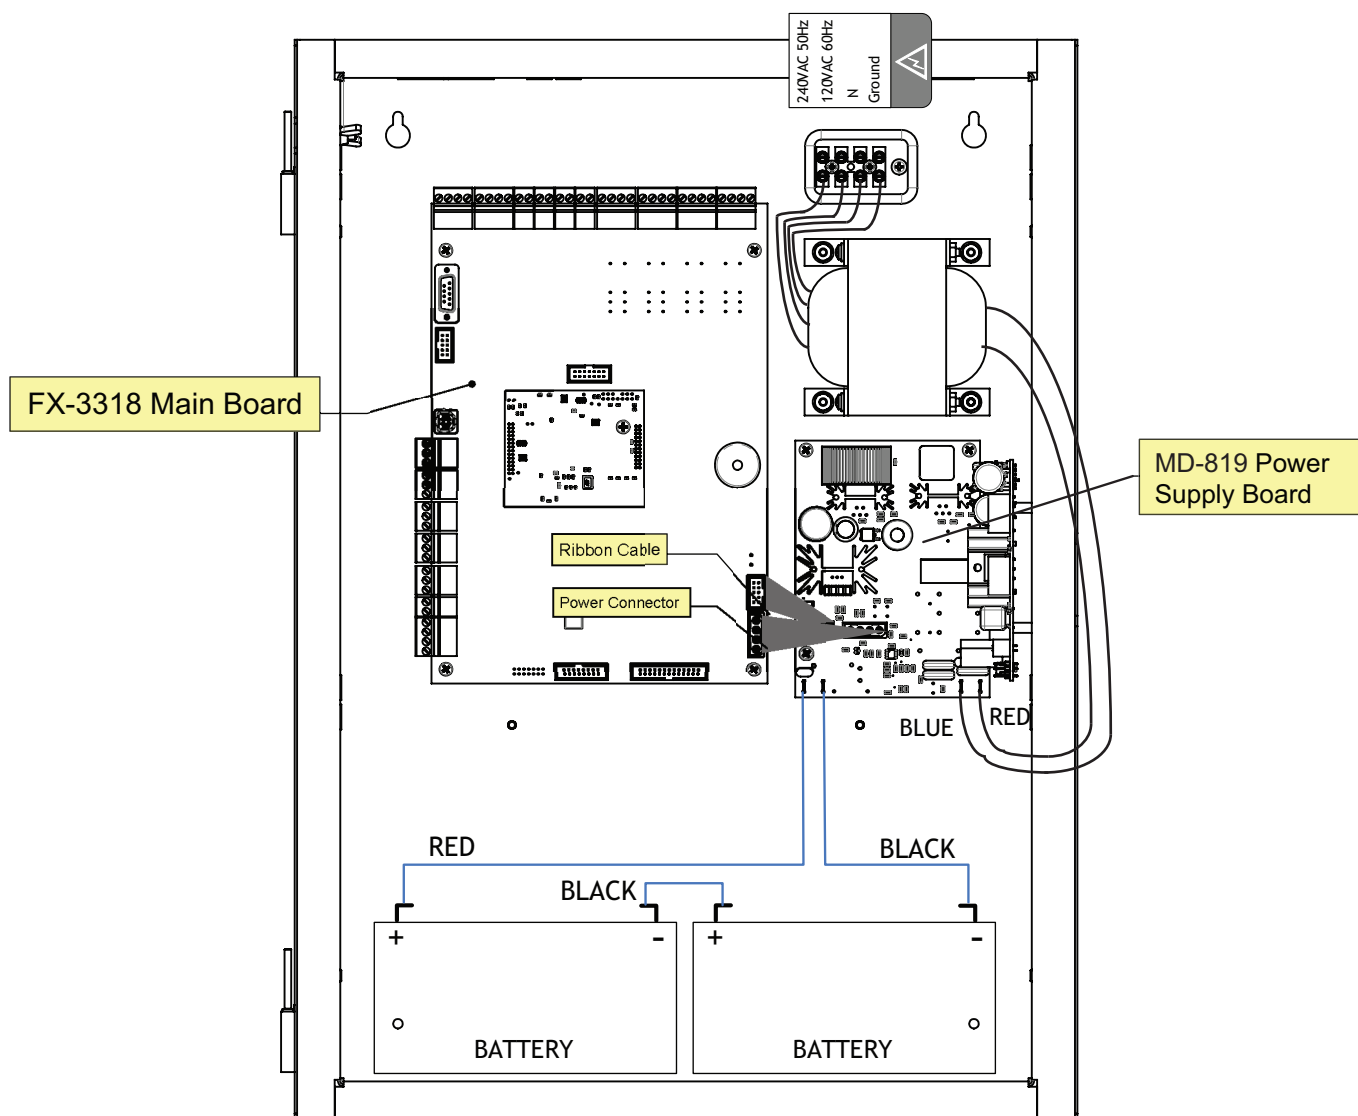

Figure 28 Main Power Supply Wiring and Connections
Wire the Power Supply as shown in Figure 28 and adhere to the following:
- Wire the AC power to the AC wiring terminals as shown in Figure 28 using the proper wire gauge with 600 volt insulation and proper over current circuit protection that complies with local codes.